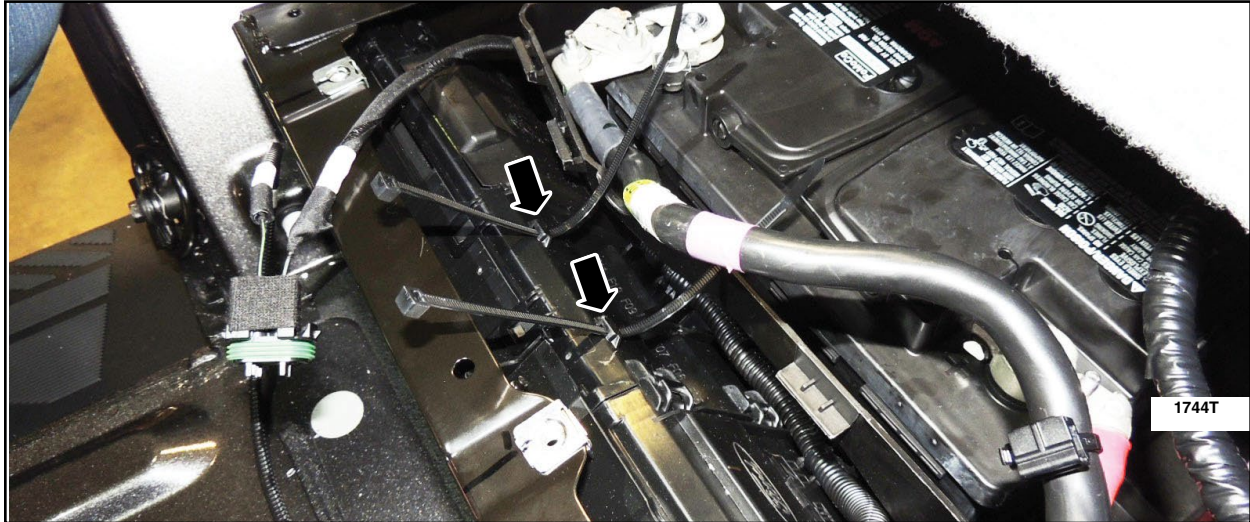

FIGURE 22
1. Place two tie-straps (component F) through the outboard and inboard upper hold down slot on the auxiliary fuse panel cover. See Figure 22.